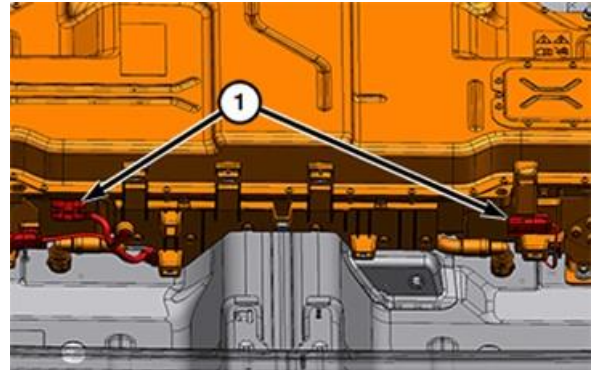

Figure 35 – HV Wire Harness Connectors
38. Disconnect the HV wire harness connectors (1) (Figure 35).
30. Connect the HV battery coolant line connectors (1) (Figure 35).